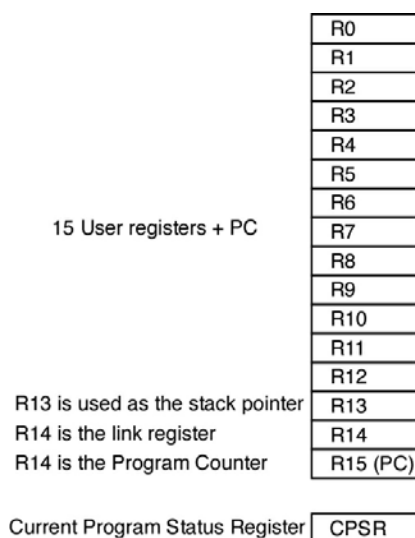

Fig 3 User Mode Register Model
The programmer's model of the ARM 7 consists of 15 user registers, as shown in Fig. 3, with R15 being used as the Program Counter (PC). Since the ARM 7 is a load-and-store architecture, an user program must load data from memory into the CPU registers, process this data and then store the result back into memory. Unlike other processors no memory to memory instructions are available.